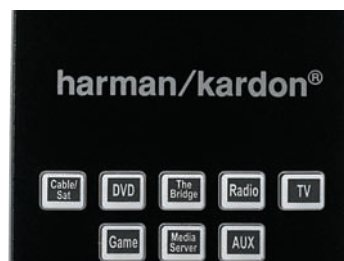

Figure 38 – Source Selectors
3. This step places the remote in program mode. Referring to Figure 38, press and hold the Source Selector. The button will turn red, then go dark. Continue holding it, and when it turns red again, release the button; the remote is now in program mode. Follow the directions in Step 4, below.